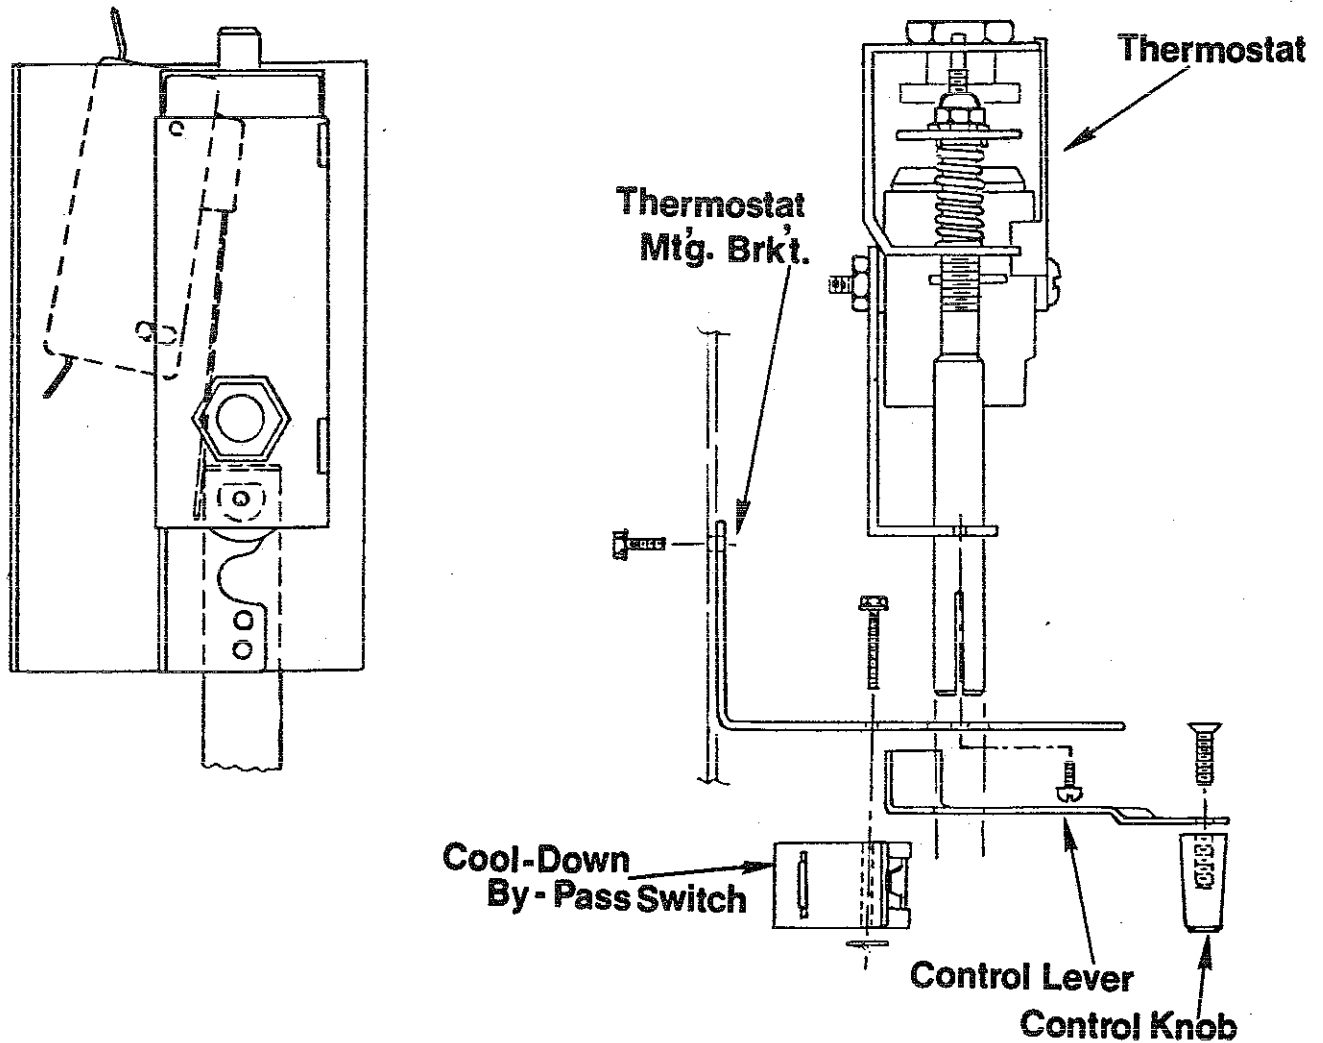

Figure 3-6. Control Thermostat and Cool Down By-Pass Switch
4. Open the upper service door and remove the temperature selector lever knob (Refer figure 3-6).